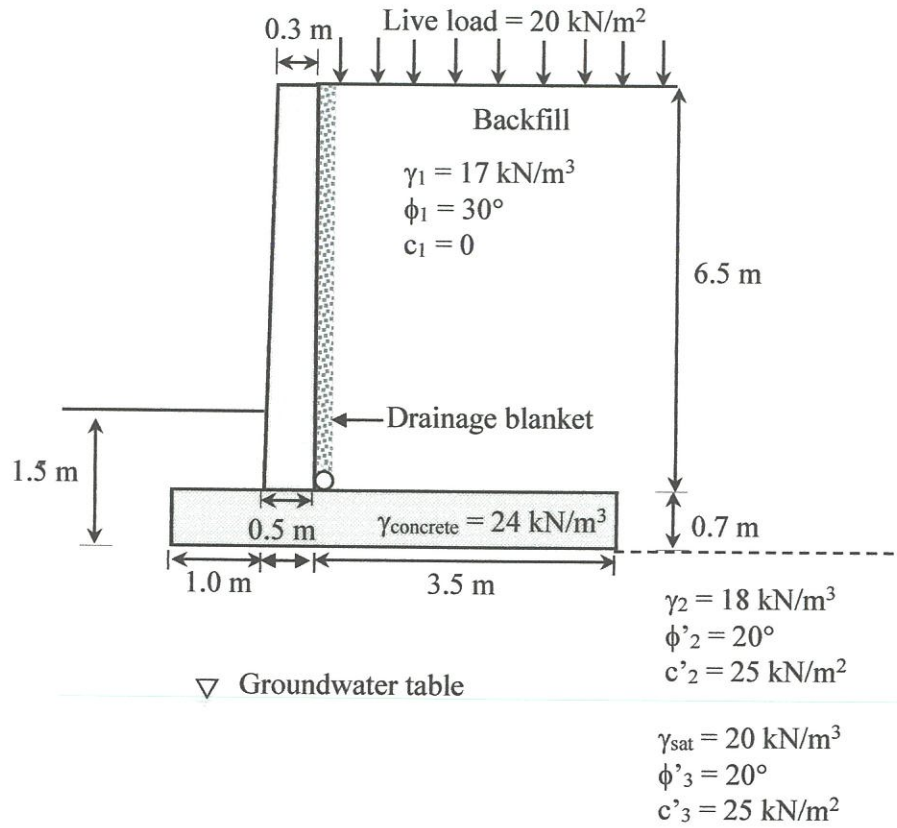

FIGURE Q2(b): Cantilever gravity retaining wall
- Q2** (a) The backfill used in the construction of the retaining wall has expansive behaviour. These materials swell significantly when in contact with water during rainfall and floods, resulting in large lateral pressure on the retaining wall. As a geotechnical engineer, propose **TWO (2)** methods to maintain the stability of the retaining wall. (6 marks)
- (b) The proposed design of the cantilever retaining wall will be constructed on clay soil as shown in **Figure Q2 (b)**. The backfill is a coarse grained soil and inclined at 8° . The live load from a rural main road is 15 kN/m^2 . The ground water level is located 2 m below the base.
- (iv) If the factor of safety against sliding is less than 1.5, propose **THREE (3)** suitable methods to increase the stability against sliding. (3 marks)